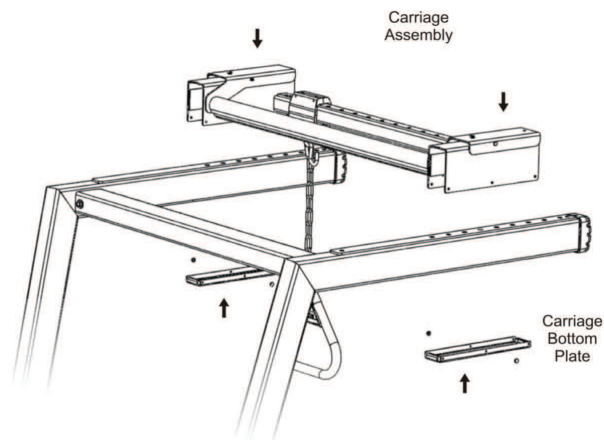

Figure 7
- Install carriage bottom plates (2) to the carriage with (2) fasteners per side (see Figure 7). Utilize the center holes on each side.